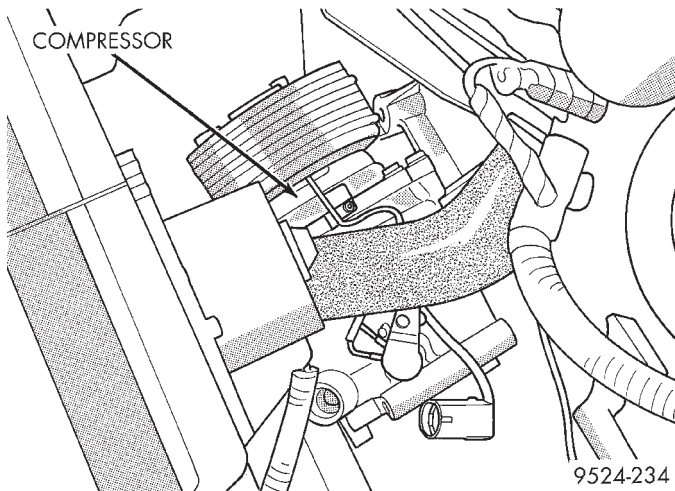

Fig. 19 Compressor Removal
- (7) Remove compressor (Fig. 19).